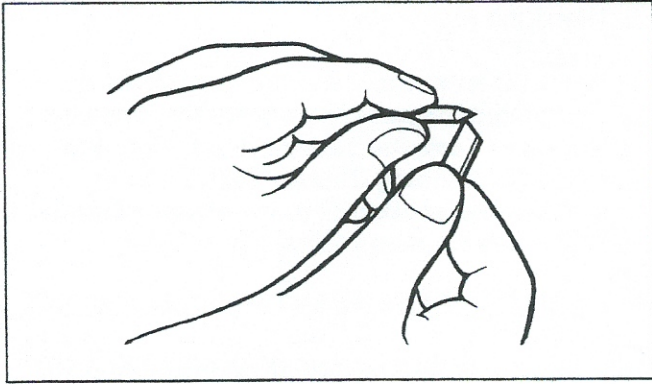

Figure 15. Needle Seat Cleaning with a Wooden Piece
2. Pull out the needle valve from the nozzle body and clean both of them to clean the nozzle. First, Holding the needle by the stem only clean the shaft section and seat surface of the needle valve using a hardwood dipped in oil or a clean soft cloth (figure 15). If a large amount of carbon residue remains and the nozzle cannot be cleaned well enough, dip the nozzle in carbon cleaner, and repeat the cleaning process.